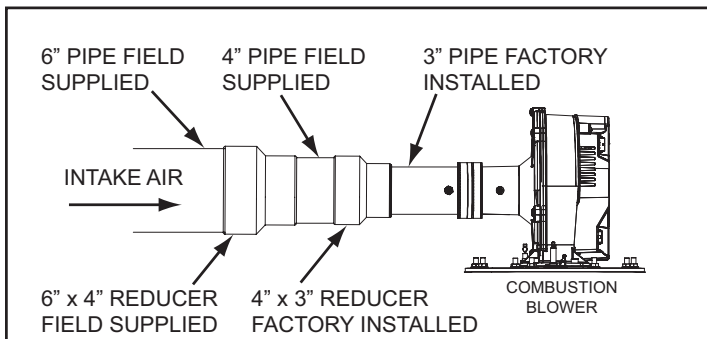

Figure 18. Intake Air Connection
14. If installing 6" intake air pipe transition to 4" pipe at the intake air connection on the water heater as shown in **Figure 18**. The field-installed 4" pipe between the intake air connection and the 6" x 4" reducer coupling should be 18 inches (45 cm) or less in length.